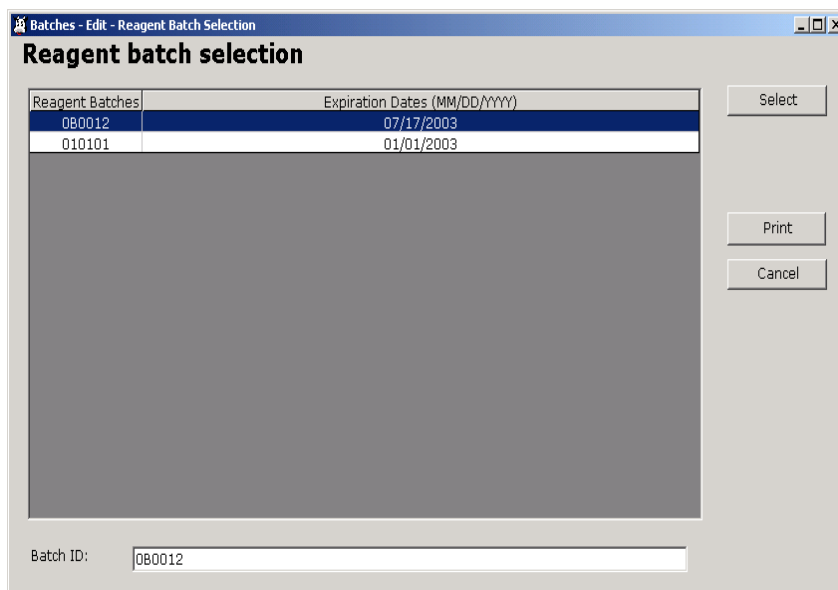

Fig. 6.2-2 : Reagent Batch selection
- (2) Select the reagent batch to be edited or modified in the list of reagent batches (Fig 6.2-2).